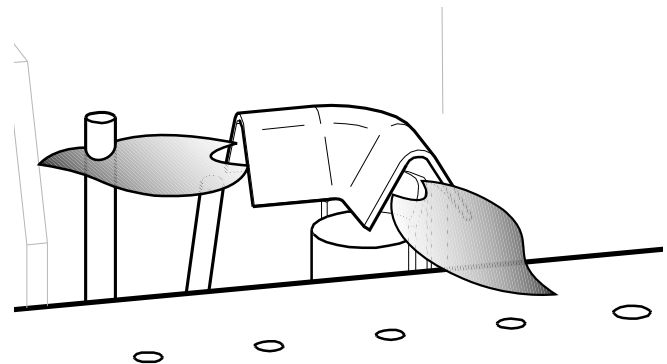

Figure 46. Correct Pilot Flame Pattern.
- **Inspect the pilot head, thermopile and thermocouple for signs of rust or deterioration and replace any components that do.** Check that the pilot head is properly engaged with the throat and is oriented correctly. See fig. 46, page 26.